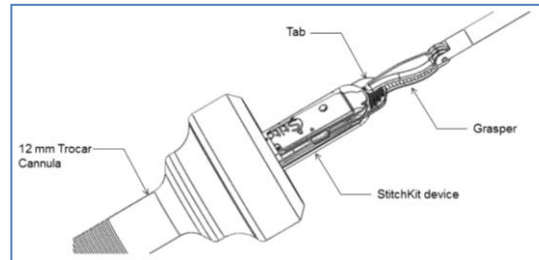

Figure 3 - Inserting the StitchKit® device using tab at end
- 4.2. Insert device through the trocar with the sutures facing down (Figure 3) and transfer it to the surgeon-controlled robotic graspers. Use caution while passing the device via the port to ensure appropriate placement of the device and avoid contact with adjacent organs. Take care to ensure that the canister does not get opened accidentally.